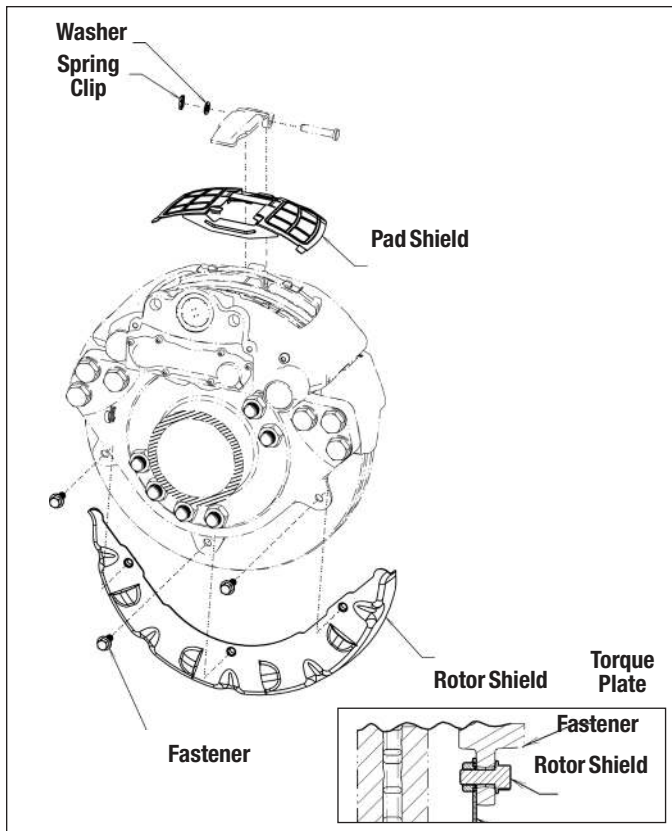

Figure 31 – Drive or Steer Axle Exploded View with Inset Showing Rotor Shield Installation
5.1.2 Remove and discard the spring clip and washer from the pad retainer pin. Remove and retain the retainer bar and retainer pin. Position the pad shield as shown and reinsert the retainer bar. Install the retainer pin. Use the included spring clip and washer to secure the retainer pin. Check that the pad shield is held securely in place by the retainer bar. (See Figure 31 or 32.)
5.1.3 **Drive or Steer Axle Rotor Shields** (See Figure 31.) Position the rotor shield *between the torque plate and the rotor*. The supplied cap screws pass through the mounting tabs in the torque plate and install into the shield. Torque cap screws to 44 ft-lbs (59.6 Nm).